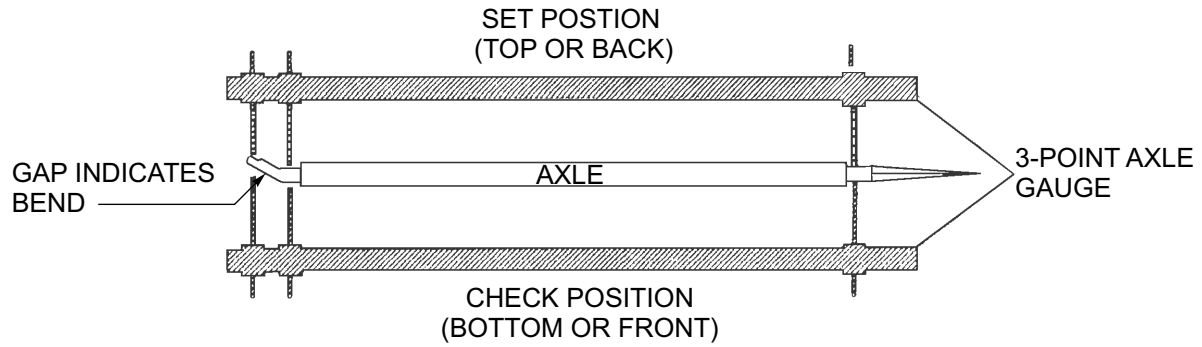

Figure 4-7: Checking Axle for Bend
2. Place a 3-point axle gauge against the front side of the axle, and adjust each axle gauge point to the axle. Double point end against the inner and outer wheel bearing surfaces of the spindle being checked and the other point on the inner bearing surface on the other spindle(See Figure 4-7.)
3. Move the axle gauge and place against the back side of the axle. If either of the points of double point end fails to touch the axle surface, a bent spindle is evident. A point gap of .015" or more is considered excessive tire "toe" and the axle must be replaced (See Figure 4-7.)